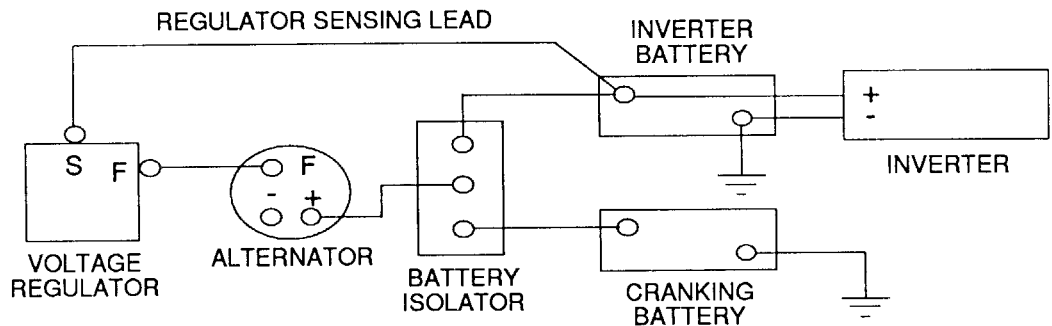

Figure 2.3 - Installation With Solid State Battery Isolator
1. Connect the vehicle battery and the inverter battery to a battery isolator as shown in Fig. 2.3 below.